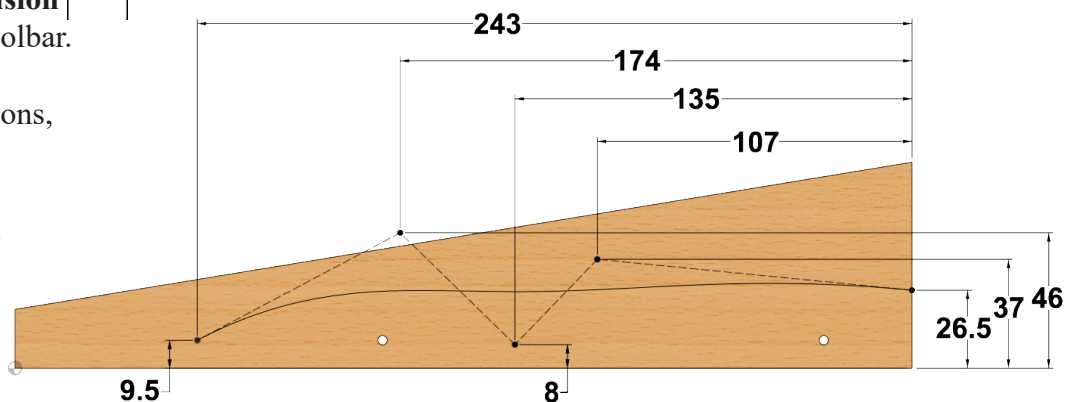

Fig. 6
Step 5. Click **Dimension**  (D) on the toolbar.
Step 6. Add dimensions, **Fig. 6.**